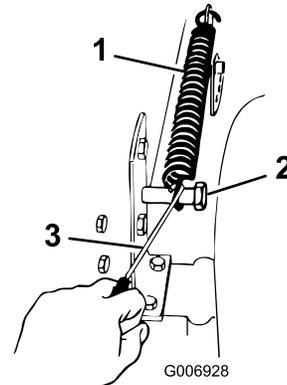

Figure 55
9. Remove the lift assist spring between the cutter deck right side lift bracket and the retaining bolt (Figure 55).